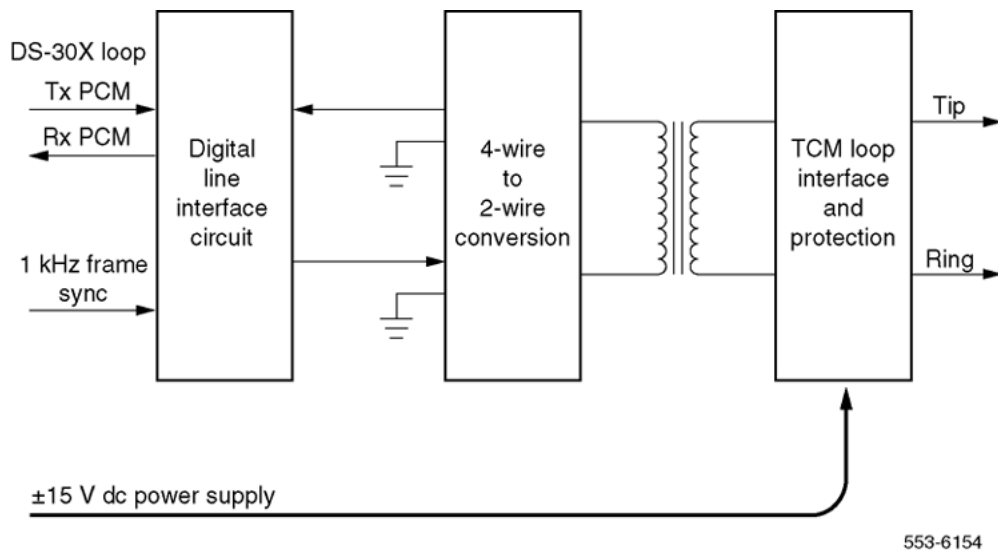

Figure 5: Digital line interface unit block diagram
DS-30Y network loops extend between controller cards and superloop network cards in the Common Equipment (CE). They function in a manner similar to DS-30X loops. See Figure 5: Digital line interface unit block diagram on page 44.
The digital line interface card contains one or more digital line interface units. See Figure 5: Digital line interface unit block diagram on page 44. Each digital line interface unit contains a Digital Line Interface Circuit (DLIC). The purpose of each DLIC is to demultiplex data from the DS-30X Tx channel into integrated voice and data bitstreams and transmit those bitstreams as Bi-Polar Return to Zero, Alternate Mark Inversion (BPRZ-AMI) data to the TCM loop. It also